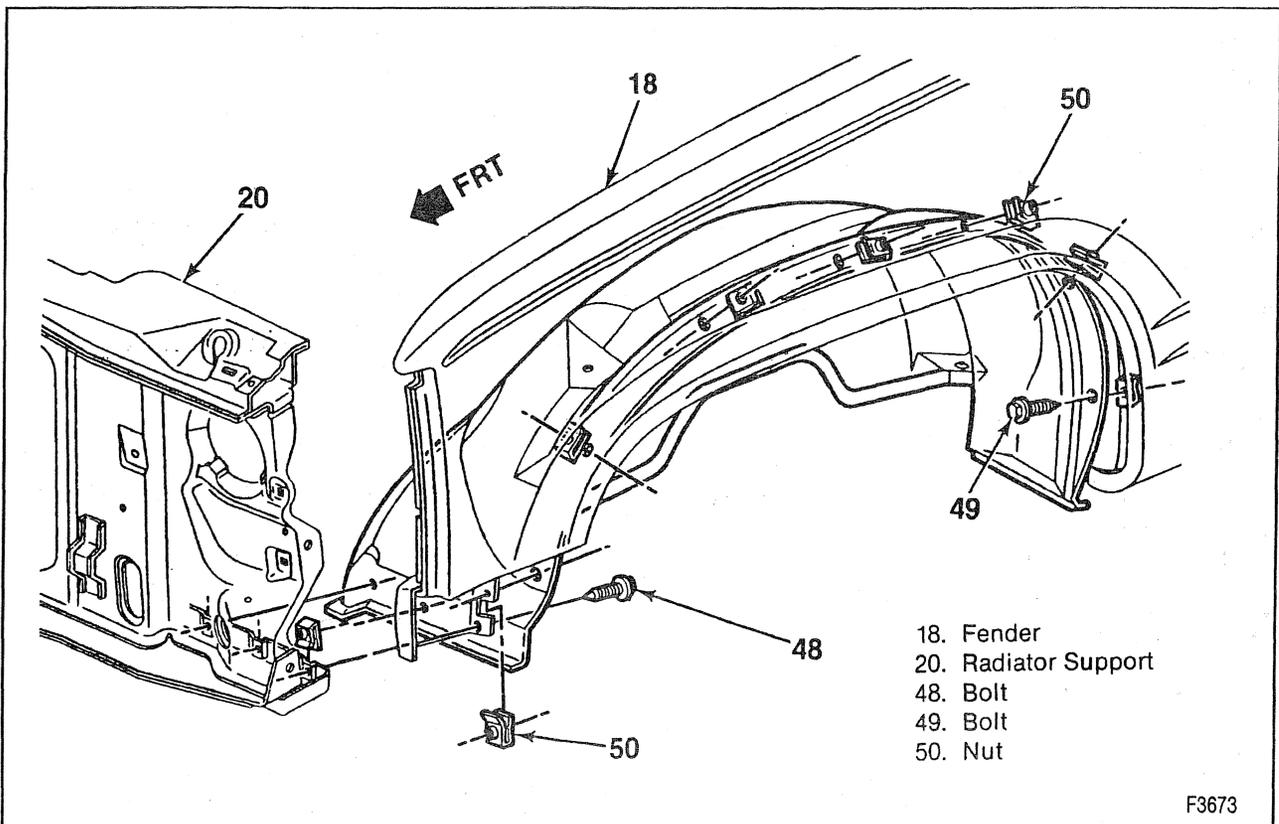

Figure 17—Wheelhouse Panel to Radiator Support Attachment
↔ Remove or Disconnect (Figures 17 and 18)
8. Two bolts holding the wheelhouse to the cowl mounting brackets (figure 17).
→ Install or Connect (Figures 17 and 18)
←→ Remove or Disconnect (Figures 17 and 18)
⇄ Install or Connect (Figures 17 and 18)
Remove or Disconnect (Figures 17, and 21 through 24)
17. Wheelhouse panel to the radiator support bolts (figure 17).